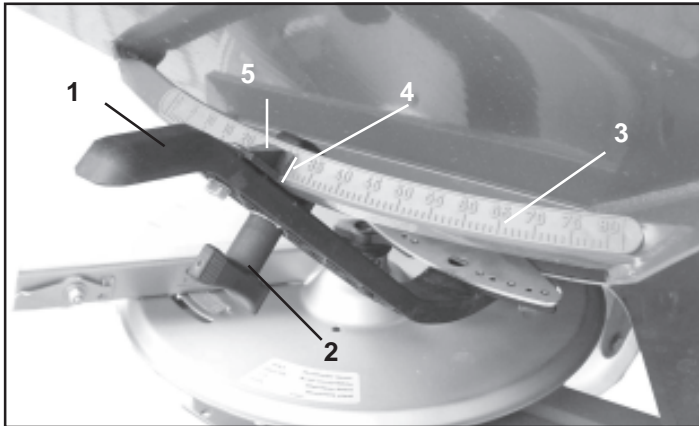

Fig. 11.1
The **shutter slide position** for the desired **spread rate** is set with the aid of the two setting levers (Fig. 11.1/1).
- Slacken the thumb nut (Fig. 11.1/2).
- Find the required shutter slide position on scale (Fig. 11.1/3).
- Set the read off edge (Fig. 11.1/4) of the setting lever pointer (Fig. 11.1/5) on to the scale figure.
- Firmly retighten the thumb nut (Fig. 11.1/2).